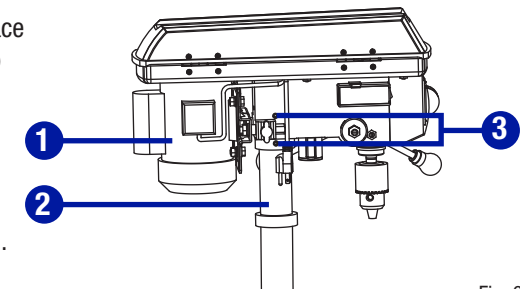

Fig. 6
**DRILL PRESS HEAD TO COLUMN (Fig. 6)**
- Lift the drill press head assembly (1) carefully and place the mounting hole of the drill press head onto the top of the column (2). Make sure the head is seated properly on the column.
- Tighten the two set screws (3) using an Allen wrench.